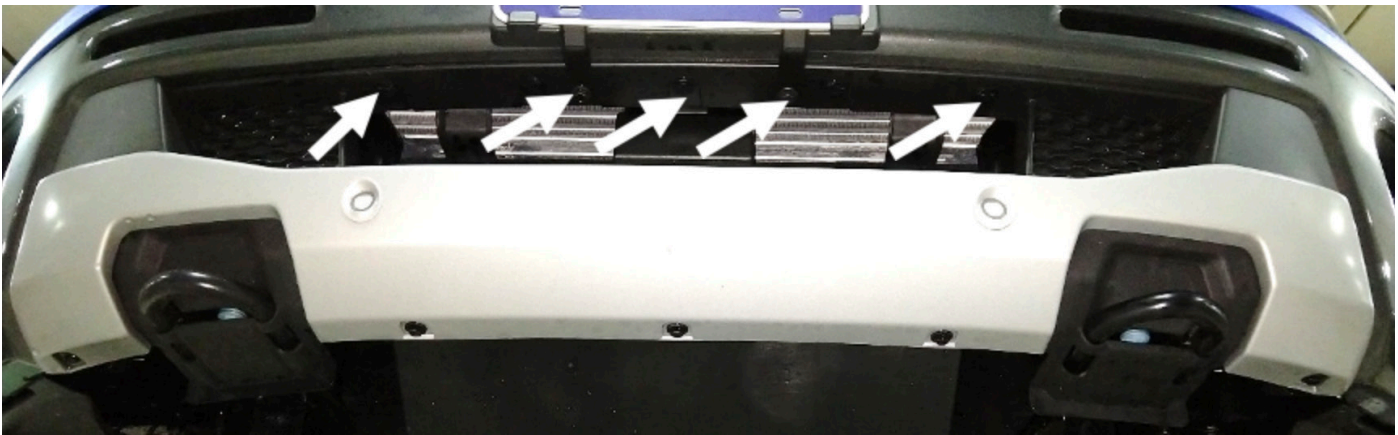

Figure 2
2. Using a plastic body panel pry tool, remove the five (5) plastic body panel rivets by prying up on the center pin and then pulling the rivet out. Figure 2.